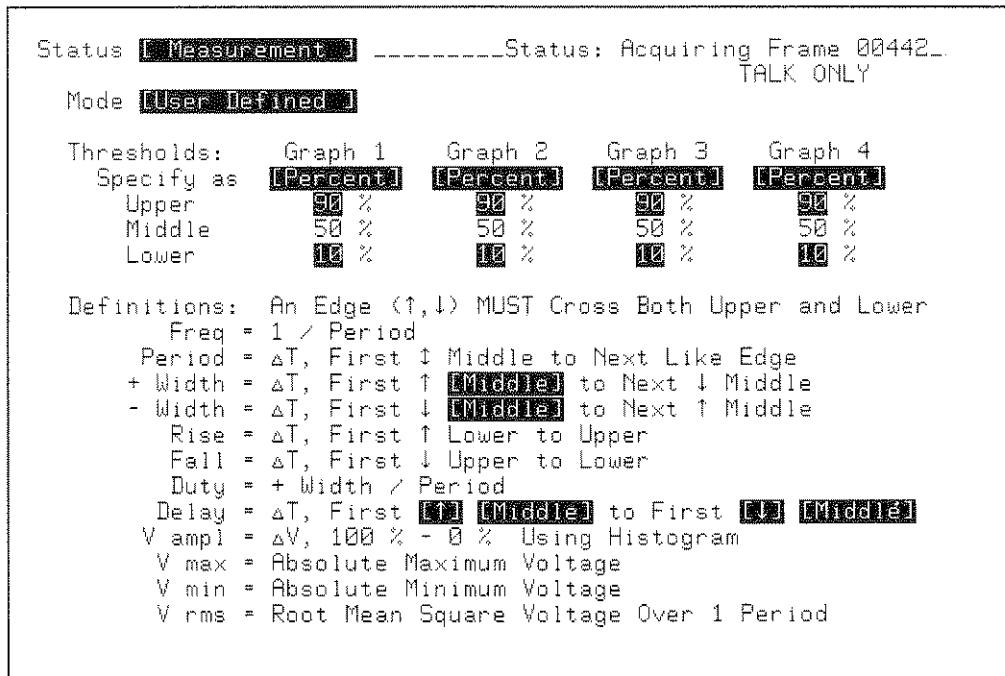

Figure 9-20. STATUS Measurement Menu
2. Configure the STATUS Measurement menu as shown in figure 9-20.